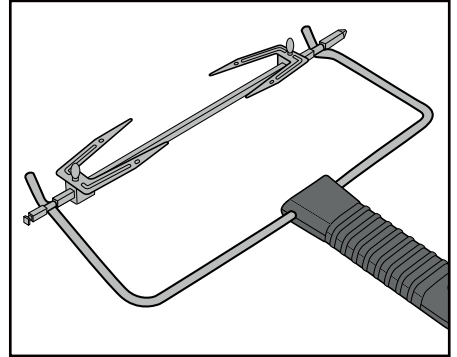

Fig. 3: Hooking the tongs (12) onto the rotisserie (16)
- Always slide the baking tray (11) into the lower rail when you use the rotisserie (16). This will collect any drips.
- To remove the hot rotisserie (16), grip with the hooks at the end of the tongs (12) into the recesses on the rotisserie (16) (Figure 3):